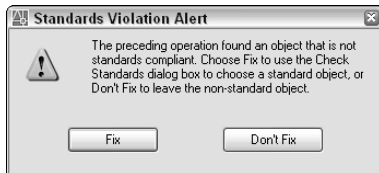

**Figure 26-14:** The alert message notifies you of a standards violation.
- ♦ **Display alert upon standards violation:** Displays a message if your drawing is associated with a standards file and you make a change that puts the drawing in noncompliance with the standards file, as shown in Figure 26-14.